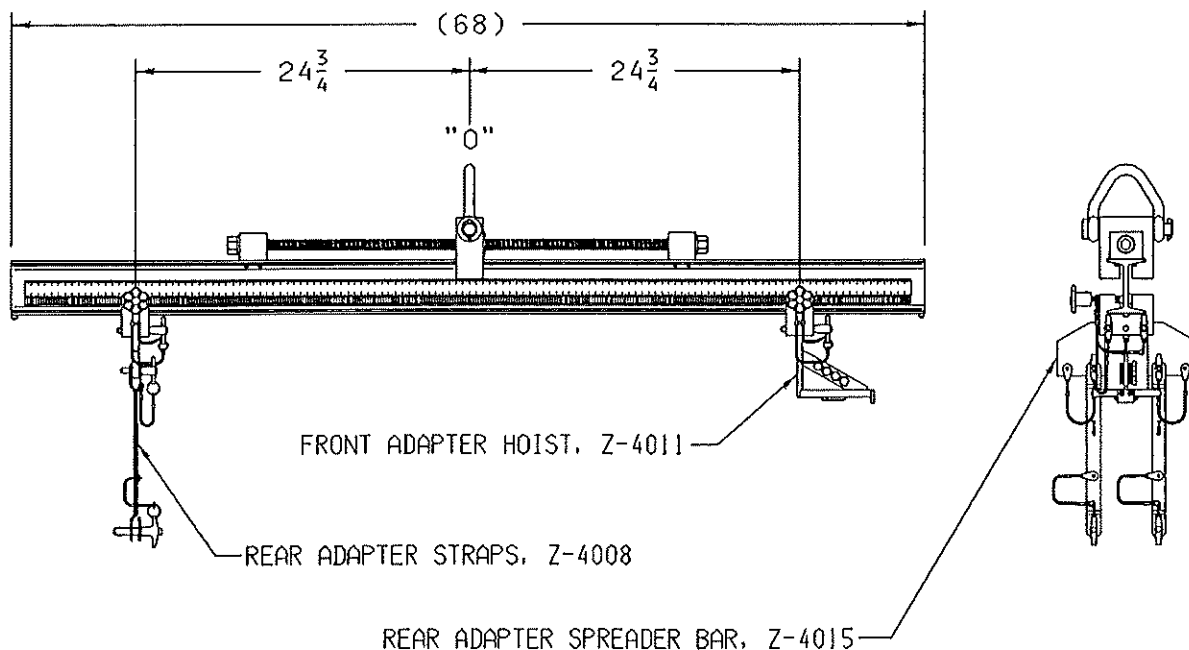

Figure 1 - Typical locations for CT7-5A Engine Sling Adapters
1. Locate the slide blocks on the engine sling bar assembly with the front slide block located at $24\frac{3}{4}$ inches right of zero point. Locate the rear slide block at $24\frac{3}{4}$ inches left of zero point and position the lift point at the zero point. Ensure that all lifting straps have been securely installed into the slide blocks (see Figure 1). The strap kit retaining ring may be placed into one of the unused holes in either of the slide blocks for storage.